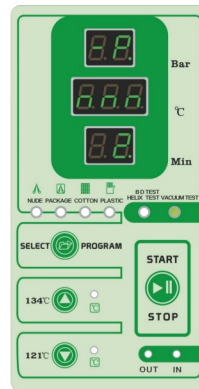

Fig.7.4-14
(5)when the operation display window appear “2” ,start balance with the air pressure, after 2 minutes,you press “start/stop” button,after you hear “ka” ,you open the door.(Fig.7.4-14).If evaluation results is failure,please you check the seal leakage and pipeline leakage.